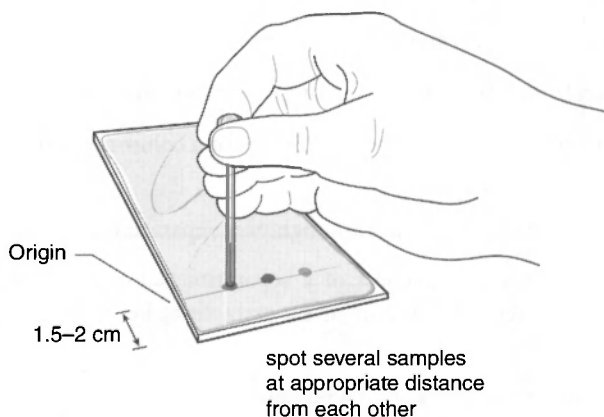

Figure 3-28. *Thin layer chromatography.*
The spot of analyte on the TLC plate should be small and concentrated. To achieve this, specific instructions must be followed (Figure 3-28):
The second problem is to find a container suitable for plate developing (Figure 3-28). The jar must be large enough to contain the plate, though not too large because the atmosphere in the jar has to be saturated with the vapor of the developing solvent, and it must to be closed. In the teaching lab a developing jar with a screw cap is often used. Alternatively, a beaker topped with a watch glass is also suitable.
2. Place a filter paper inside the jar as shown in Figure 3-28 and wait until the filter paper is saturated by the solvent. The purpose is to create an atmosphere saturated with the solvent, which will enhance the speed and quality of development of the plate. The filter paper also helps to stabilize the plate.